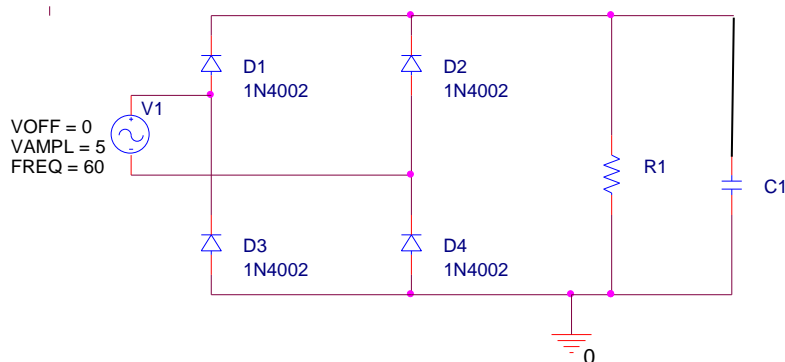

Figure 4: Full-Wave Rectifier
- Build a full wave rectifier bridge in LTspice with 1N4002 diodes as shown in figure 4 (use R1, and C1 from above) set $V_1 = 5V_p$.